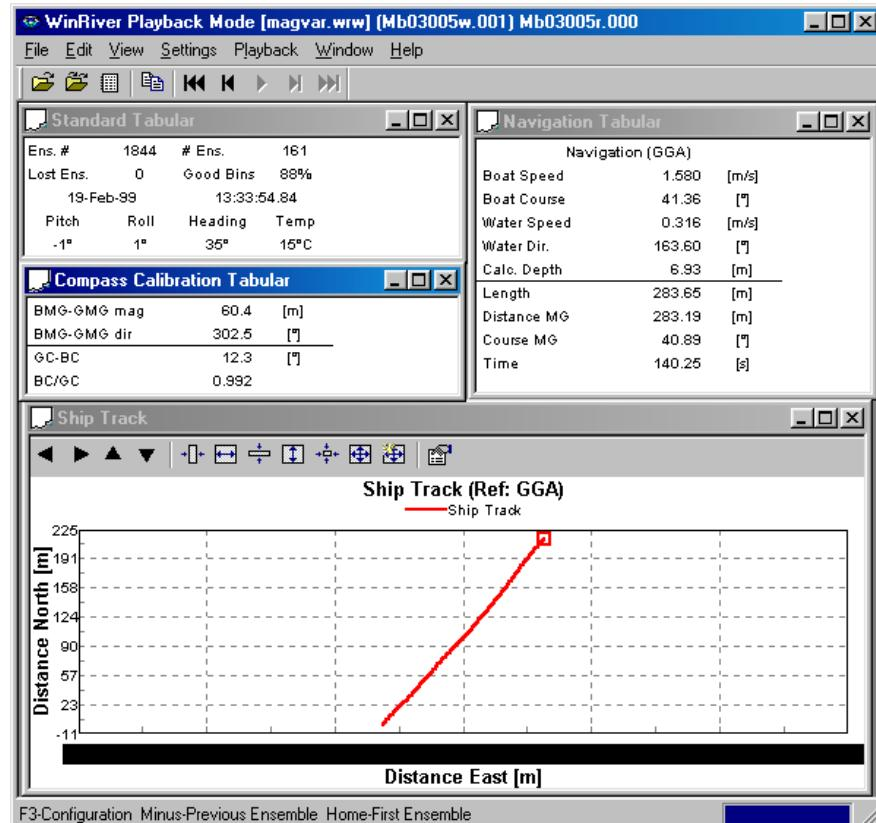

Figure 22. Determining Local Magnetic Variation
- Record the value of GC-BC from the **Compass Calibration Tabular** screen as shown in Figure 22. This is the compass error on this course (variation + deviation). Press F5 to stop recording.